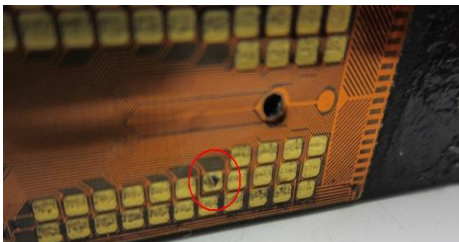

Figure 5-7
- Problems such as the one illustrated in Figure 5-7 is one of the leading causes of print quality degrade, caused by poor contact of a damaged pin. This type of irreversible damage is the result of using excessive force and wrong cartridge insertion.